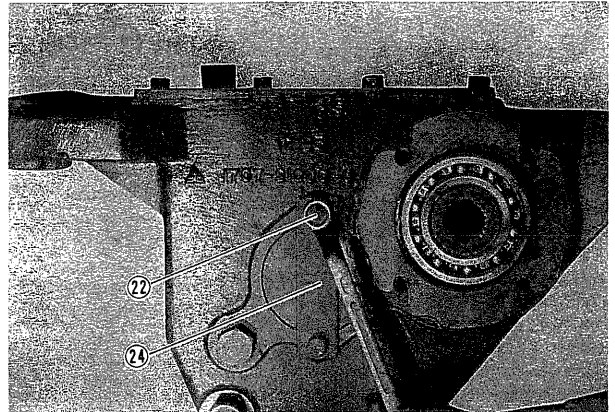

Fig. 32
- (4) Remove bolts (22) and remove support (24). (Fig. 32)